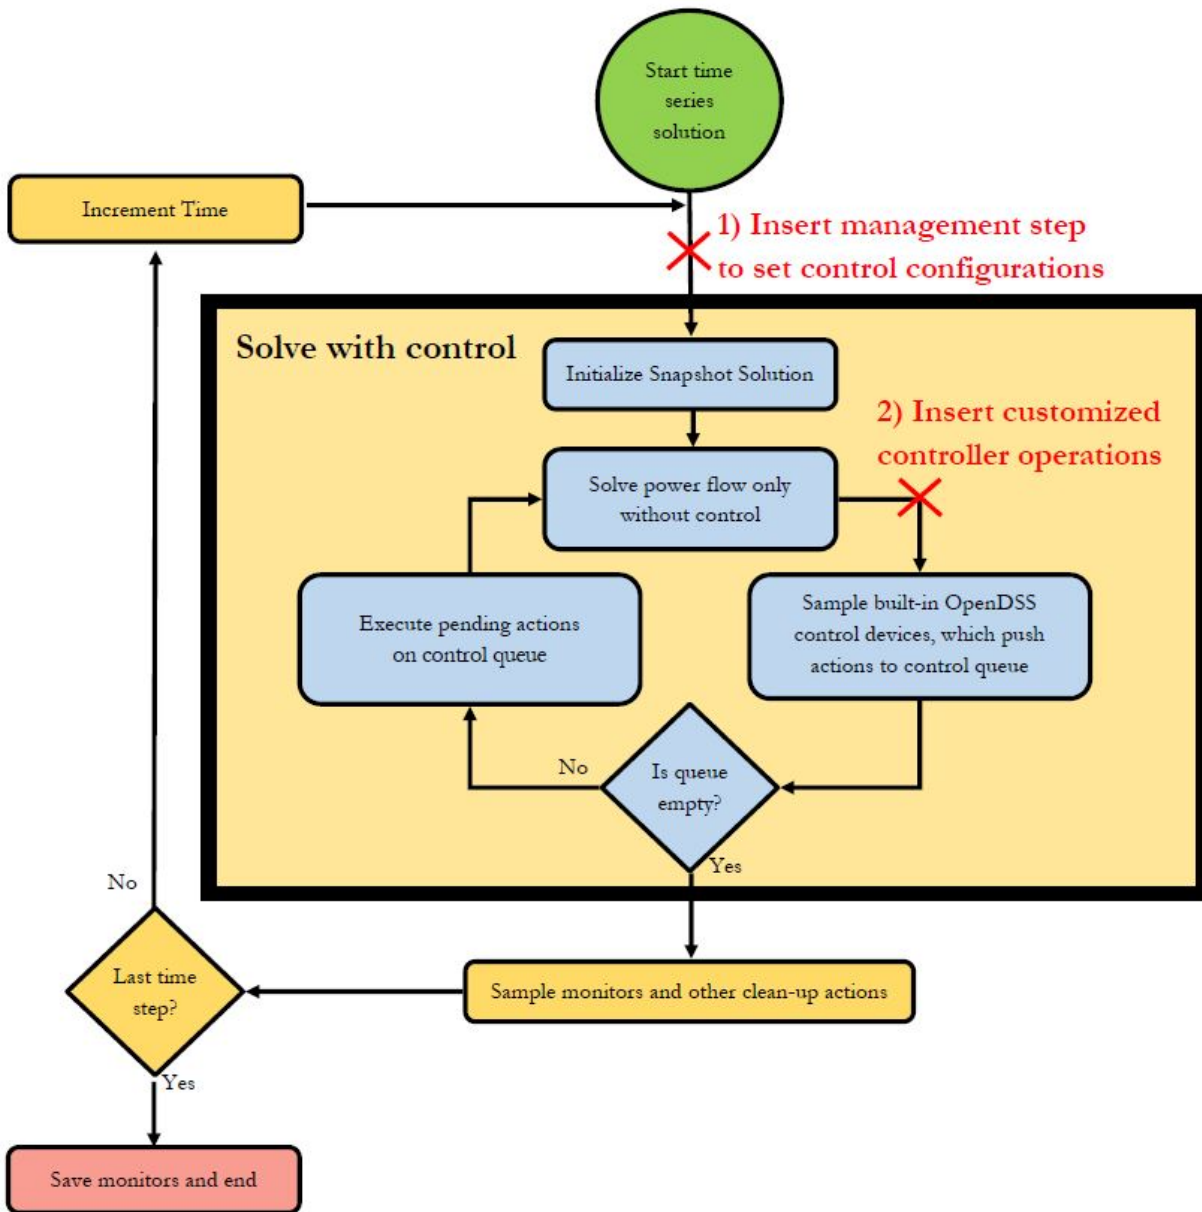

Figure 1: Flow chart of OpenDSS simulation process
The OpenDSS simulation process is illustrated in the flow chart of Figure 1. Each time step consists of three main parts. First, a solution with controls is completed unto convergence, shown by the large yellow box. Next, clean-up operations are done such as sampling monitors and updating the charge percentage of a storage element. Finally, if there is another time step, time is incremented and the loop begins again. Within the solve-with-control block, the small blue blocks depict the controller operations in OpenDSS. For the necessary number of control iterations, each control element is allowed to measure the results of the power flow and push actions to the control queue for operation after a delay. When all actions on the control queue have been completed and no further ones are added, or if the number of control iterations has exceeded the maximum, the solution with controls is considered finished.
Figure 1 also shows the two locations, marked by red X's, where a user may want to insert control actions. Point (1) is the place for DMS-style control optimization settings, where the parameters for each control element can be set. Management tools can use the entire large solve-with-control block as a testing function to see what the results will be from any number of configurations.
To implement true customized control elements, which can push actions to the control queue, iterate over each control cycle, and interact with other controllers through timing setup, the user must insert functions at point (2) on the chart of Figure 1. This point is inside the control function and has the benefit of customized controller iterations, but decisions here cannot use the entire yellow box as a test unit without causing infinite recursion.
To implement a true custom control element, it is necessary to replace the `SolveSnap()` command above, which corresponds to the large yellow block in Figure 1, with an emulation to allow access at point (2). This is done with code similar to below.
This example shows the code to load a circuit file, set up a daily simulation, and perform custom control functions at both points in Figure 1.
# this is point (1) on Figure 1